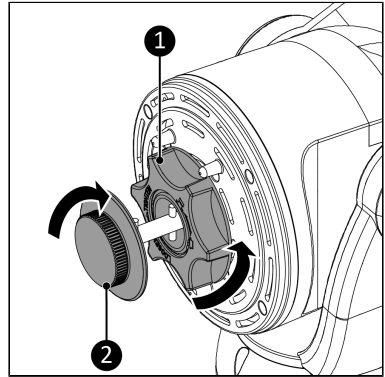

Figure 26.
5. Remove the blade nut (Figure 26, pos. 2) from the fan motor by turning it clockwise.
6. Remove the grille nut (Figure 26, pos. 1) from the fan motor by turning it counterclockwise.